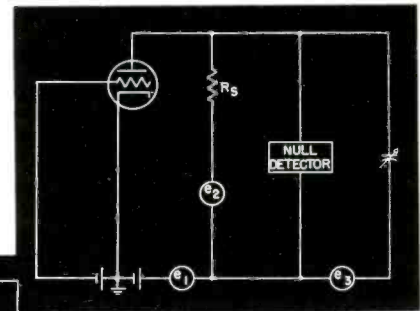

Fig. 2. Simplified bridge circuit for measuring  $R_p$  of a vacuum tube.
Upon examining Eq. (7), the expression for  $R_p$ , it becomes apparent that the increments of alternating voltage and current involved correspond to those for  $h_{11}$  of the transistor. Thus,  $v_e$ ,  $i_e$ , and  $v_c$  correspond to  $v_p$ ,  $i_p$ , and  $v_o$ , respectively, if the transistor is reversed when it is inserted into the bridge so that the emitter side is inserted into the plate terminal of the bridge and the collector is inserted into the grid terminal. The simplified bridge circuit for measuring  $R_p$  and the associated circuit for measuring  $h_{11}$  are shown in Figs. 2 and 3.